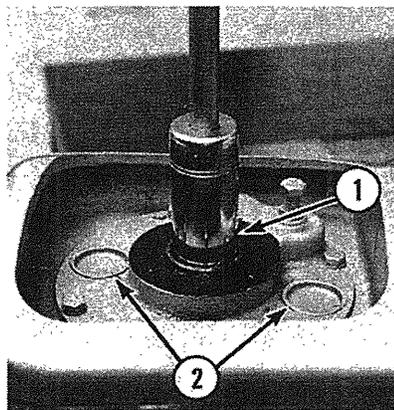

Fig. 4-3
- D. Remove stop nut from center shaft (1, Fig. 4-3). To loosen; turn in clockwise direction. This nut has a LEFT HAND THREAD. If nut will not loosen, put the flat "B" beater on and hold it while loosening the nut.
- E. Remove two friction plugs (2, Fig. 4-3).